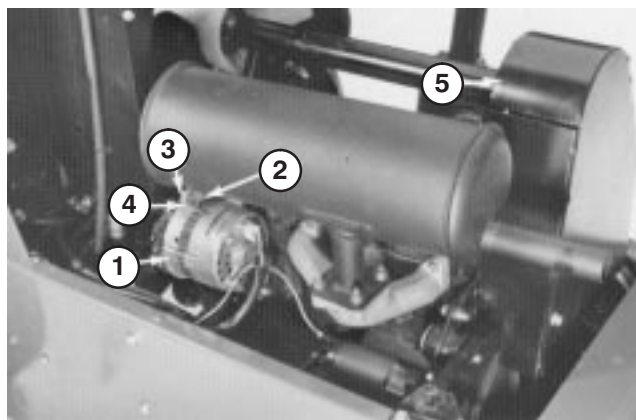

Figure 46
3. Loosen bolt securing brace to engine and bolt securing alternator to brace (Fig. 46).
4. Insert pry bar between alternator and engine and pry out on alternator (Fig. 46).
2. Remove capscrews (5) securing fan belt guard and remove guard (Fig. 46).
5. Install fan belt guard and secure with capscrews (Fig. 46). Close and latch hood.
4. Install fan belt guard and secure with capscrews (Fig. 46). Close and latch hood.